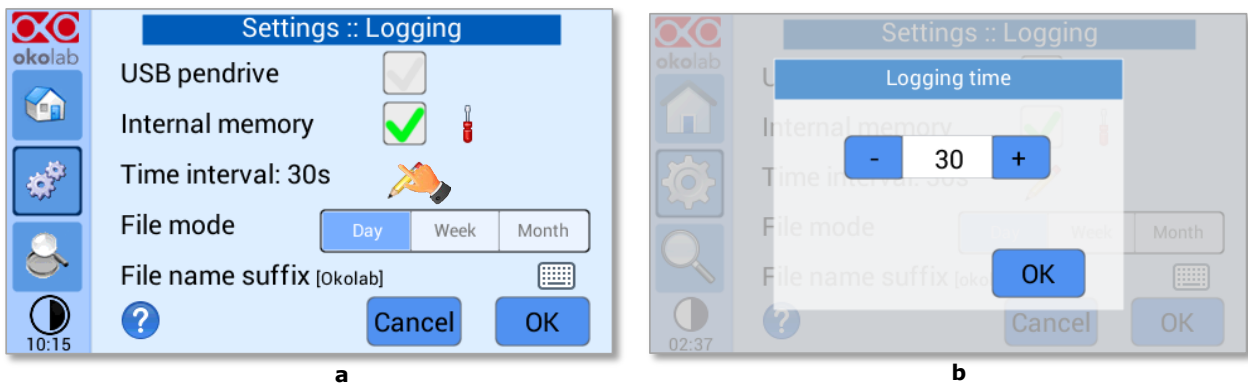
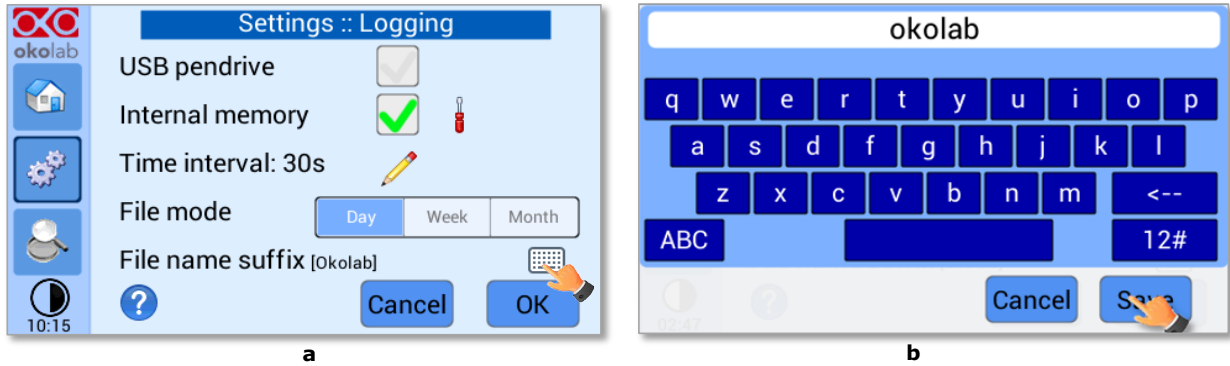
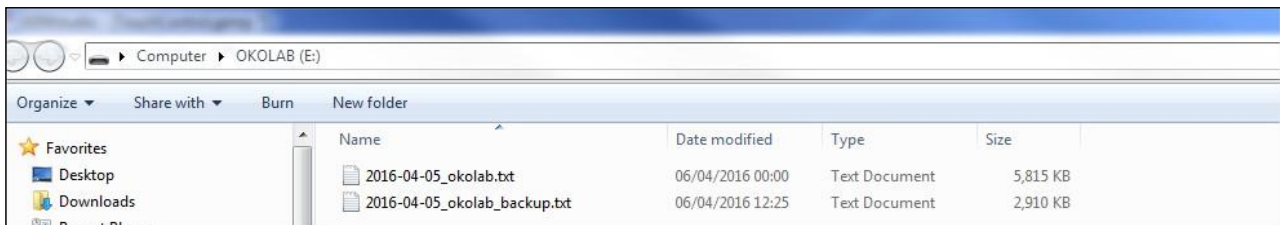

Figure 72. How to set the logging time (a – b).
Figure 73. Data Logging. How to define the suffix for the downloaded files (a – b).
Figure 74. Downloaded files on the pen drive.
- Press on the icon  to insert the *Time Interval* i.e. the frequency with which you want to record a data point, as shown in Figure 72. In this example a data point is logged every 30 seconds, you can change *Time Interval* in the range 1-60 seconds.
- Choose how you want to organize the data when downloaded, by pressing on Day, Week or Month, see Figure 72 a.
5. Write the file name suffix to be reported in the downloaded files by pressing on the keyboard icon , see Figure 73 a.
6. Press Save, see Figure 73 b.
Tip ► With the selections as in Figure 72 and in Figure 73, the data will be downloaded on the USB drive as shown in Figure 74.